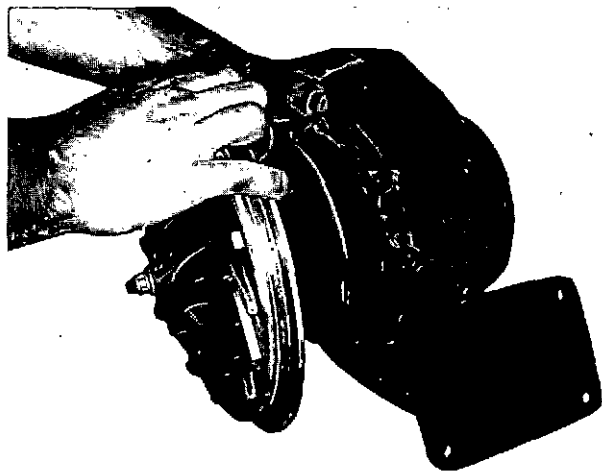

Fig. 5-5, (TA9). Removing the turbine housing
6. Separate the turbine housing from the center housing. Lift out the center housing assembly, Fig. 5-5.